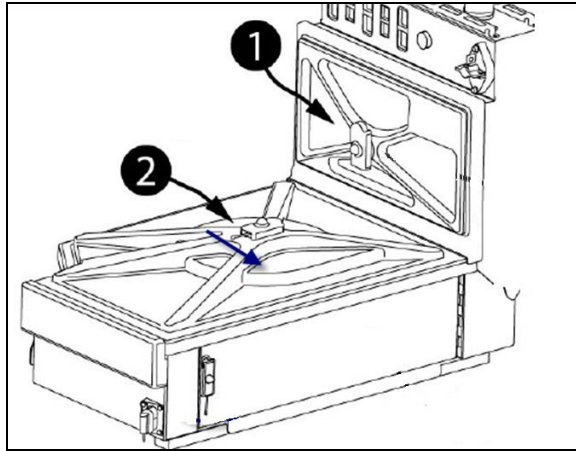

Figure 25: Battery & Electrical Box Covers
- 3.18 Install the battery protective cover (number 2, Figure 25)